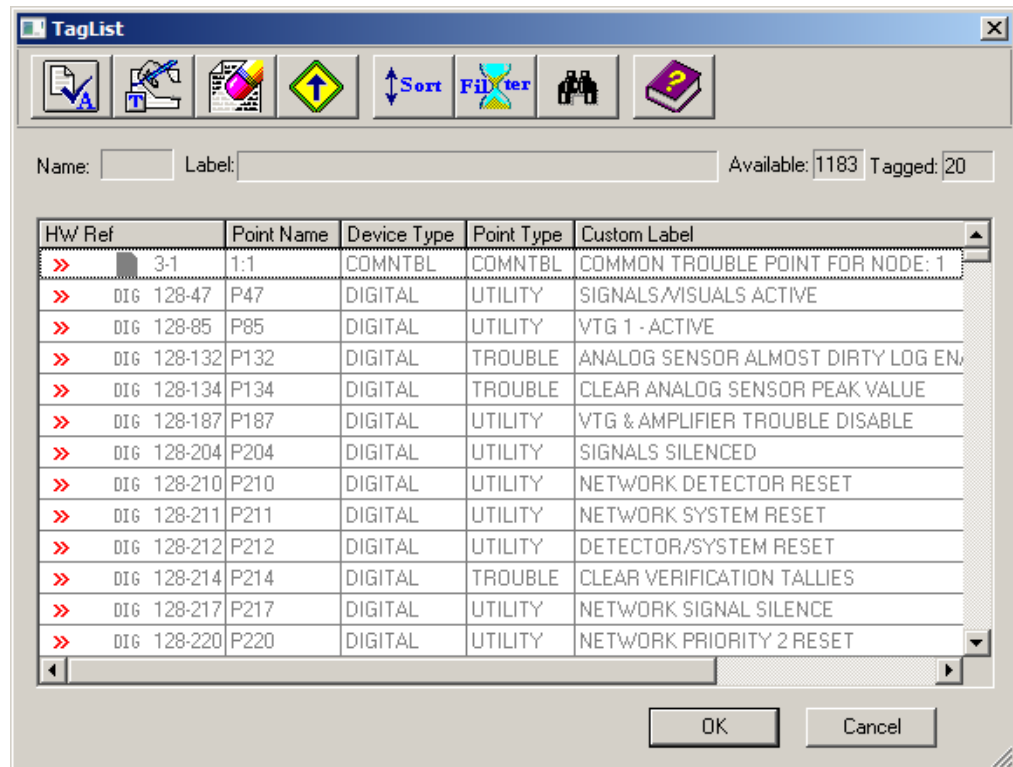

Figure 13-3. Public Points Tag List
2. Right click on the Public Points folder and select the **Edit Public** choice. The tag list is shown in Figure 13-3.